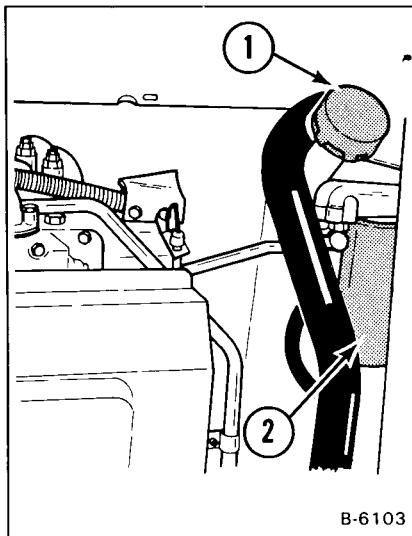
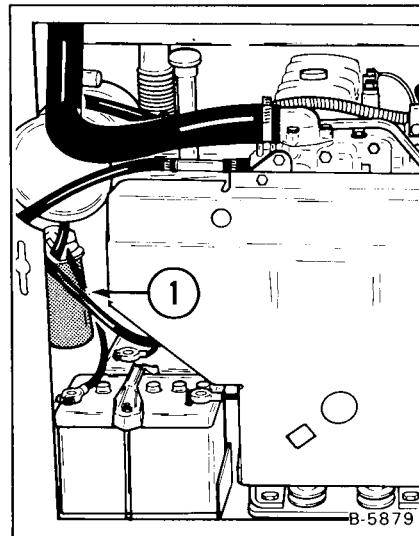

Fig. 1-34 Filter Location
Fig. 1-35 Filter Location
There are two (2) filters (one #10 micron and one #3 element) installed in the system. They are in the engine compartment. One is located on the fluid reservoir tank (Fig. 1-34, Item 1) and the other is under the air cleaner (Fig. 1-35, Item 1).
- (1) Put the Bobcat Forklift on a level surface.
- (2) Put the vertical mast fully down.
- (3) Remove the dipstick and check the level of the fluid (Fig. 1-34, Item 1).
- (3) When all the fluid is out, install the plug and tighten.
- (4) Remove the oil fill cap/dipstick from the reservoir (Fig. 1-34, Item 1).
- (1) Clean the area around the filter housings.
- (2) Remove the filter elements (Fig. 1-34, Item 2 & Fig. 1-35, Item 1) with a filter wrench.